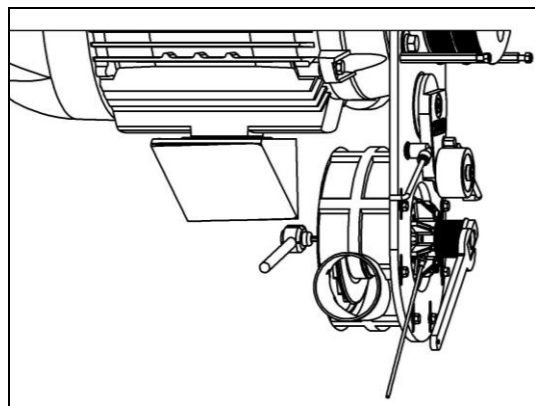

Figure 36 – Remove Impeller
6. Remove impeller using a 11/8 inch open end wrench and a 1/4 inch allen wrench. (See Figure 36)